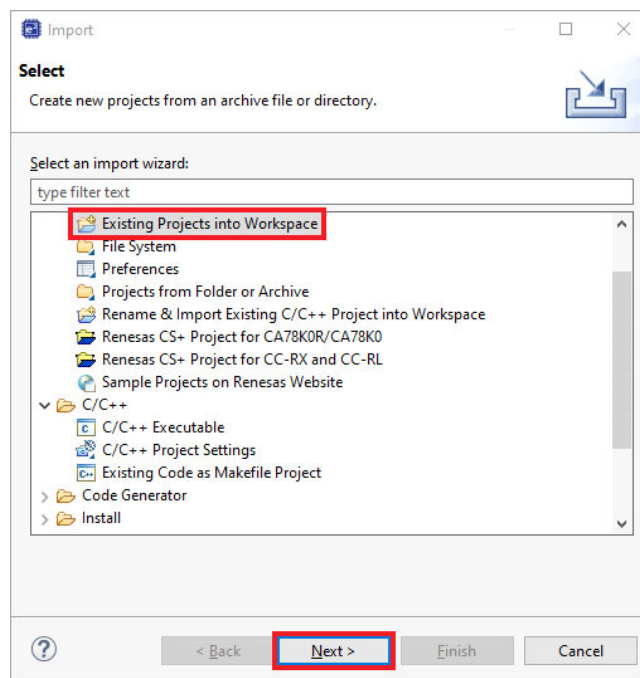

Figure 17. Selection of the Import Wizard Option
2. From the Import Wizard window, select **Existing Project into Workspace** and click the **Next >** button (Figure 17).